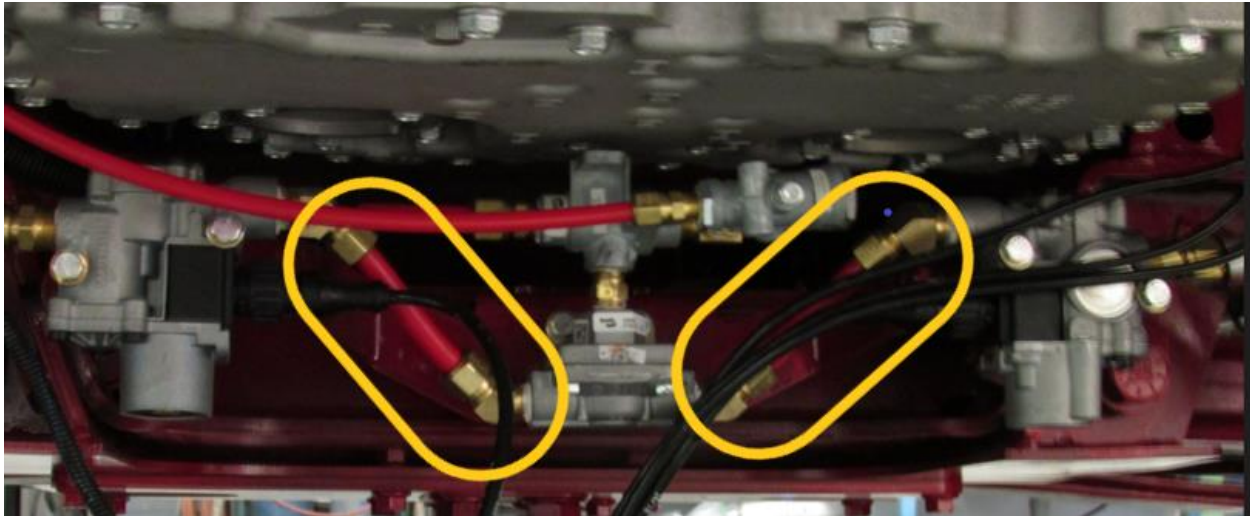

Figure 3.1
6. Install 1/2" air line between the quick release valve and the modulator valves. *See Figure 3.1*